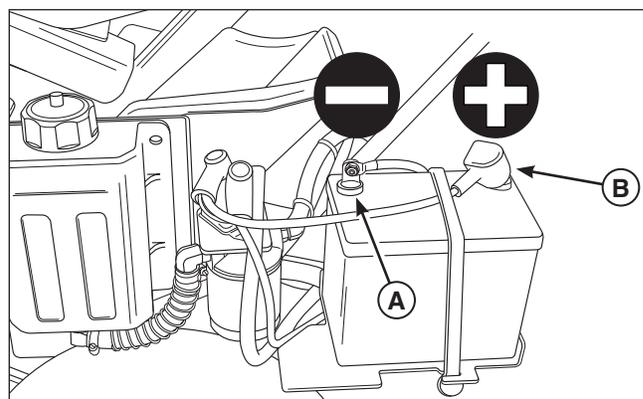

Figure 66. Battery Maintenance
1. Disconnect the cables from the battery, negative (black) cable first (A, Figure 66).